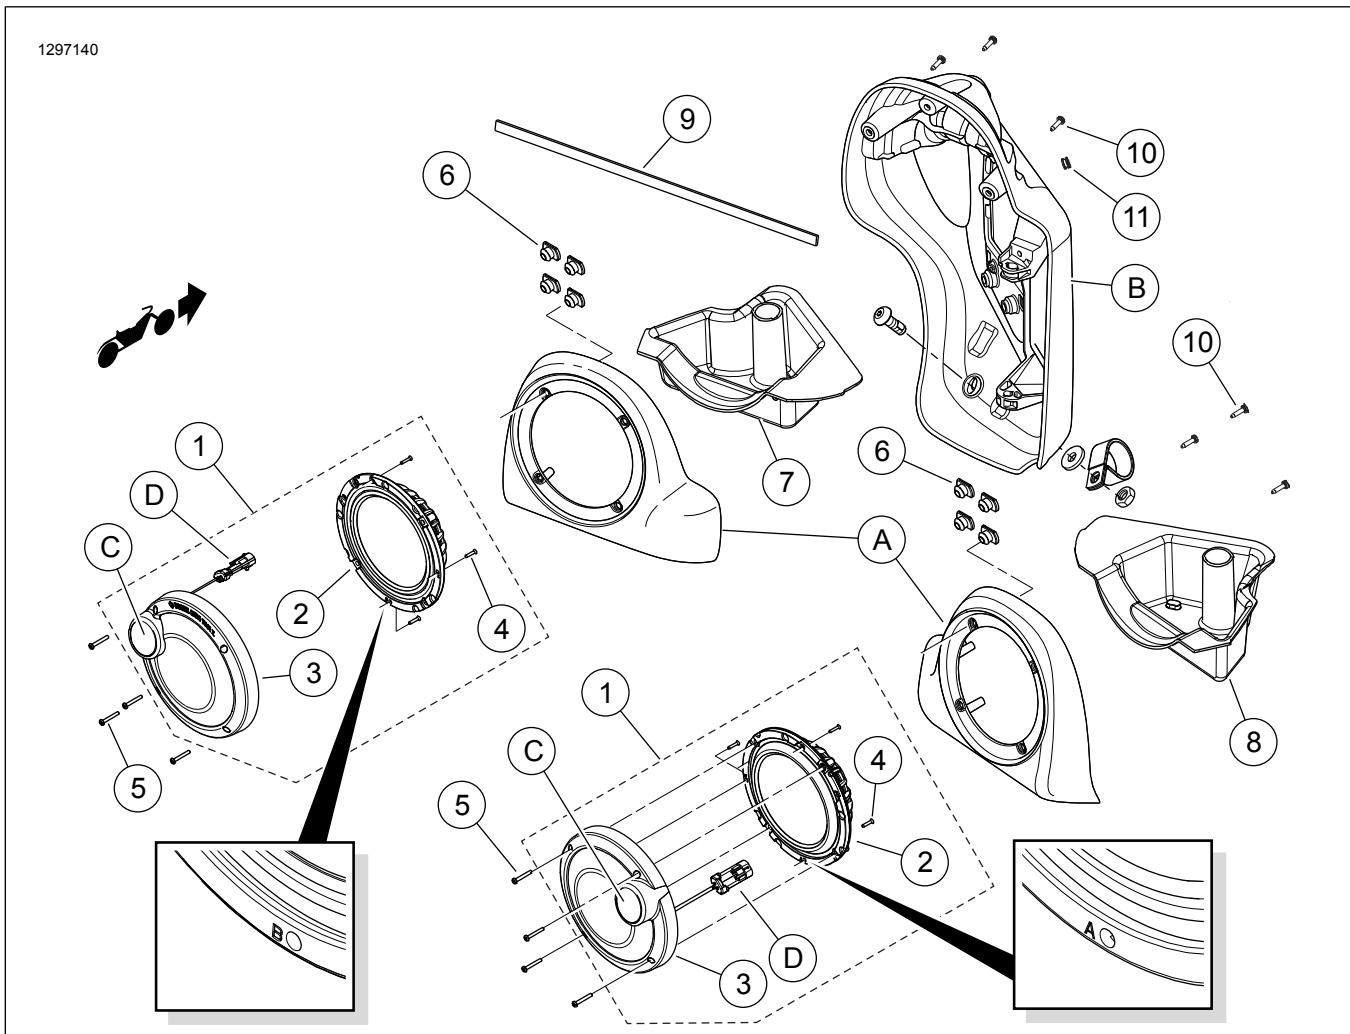

Figure 12. Service Parts, Boom! Audio Stage II Fairing Lower Speaker Kit
To ease assembly, first install the screws (see Figure 12, item 10) into the enclosure without the tray. Remove the screws.
18. See Figure 12. Separate the split grommet (11). Install the grommet around the harness leg. Install into the drilled hole in the fairing.
22. See Figure 12. Attach the speaker wire connectors inside the speaker enclosure to the spade terminals on the back of the **new** woofer. Different size spade contacts prevent improper assembly.
23. Connect the two-way audio connector of the amplifier harness to the mid-range and tweeter connector (D).
24. Rotate the speaker assembly (1) so the tweeter (C) is 45 degrees outboard from the top.
25. Install the speaker assembly onto the speaker enclosure with the four screws (5) from the kit.